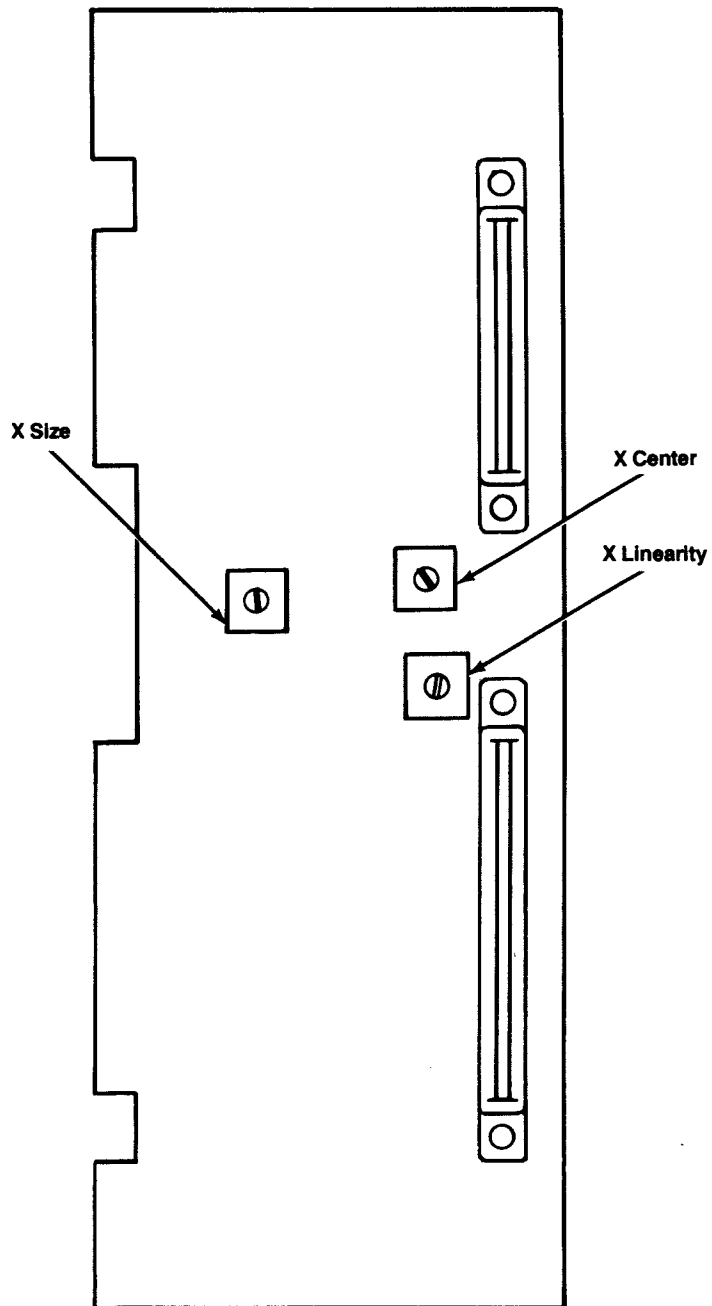

Figure 14 Adjusting the Display
The horizontal (X) adjustments are located on the Conversion PCB (see Figure 14) and the vertical (Y) adjustments are located on the Major Havoc game PCB (see Major Havoc operators manual). The X adjustments on the Major Havoc game PCB are bypassed through the Conversion PCB and are not functional when the Conversion PCB is connected.